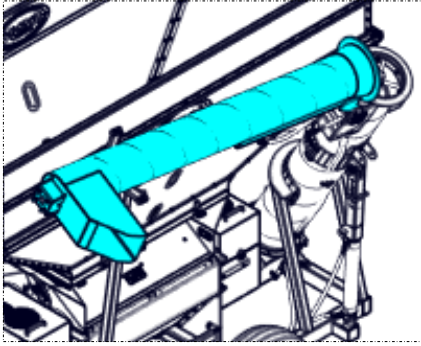

Figure 4.11
- 1) Using the tractor's hydraulics, unfold the upper section of the auger (Figure 4.11).